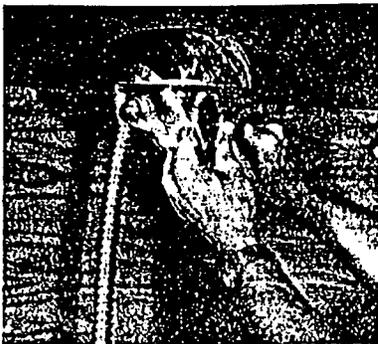

FIGURE 15
4. Slip the ceiling collar over the flex duct. Compress the flex duct, above the furnace, back to the ceiling opening. Turn the compressed flex duct sideways and pull it through the ceiling collar so the ring of the ceiling collar will fit up into the ceiling hole. See figure 15.